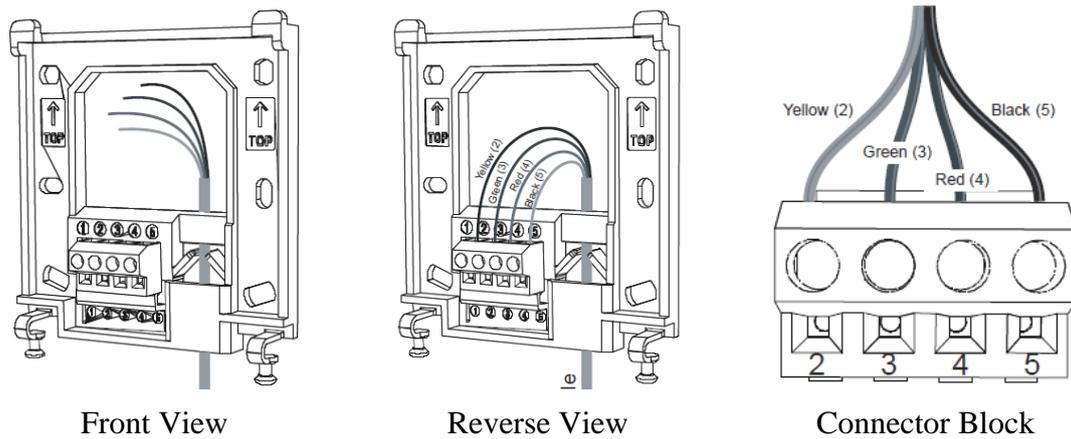

Figure 43. Secure Pipe Tank Digital Temperature Sensor RJ10 connections.
**Step 2:** Use the supplied RJ10 cable with an open end that is packed with the SES 002. Feed the stripped end of the RJ10 cable through the cable guide. Pull through a sufficient working length of cable. The RJ10 telephone cable should now be threaded into the back plate in a safe and secure manner and will not be crushed when the back plate is screwed against the wall. Now insert the stripped copper ends of the RJ10 telephone cable into the connector block. Be careful not to over tighten the screws as this can damage the connector block and the cable. Refer to the picture and connection table (Figure 43).